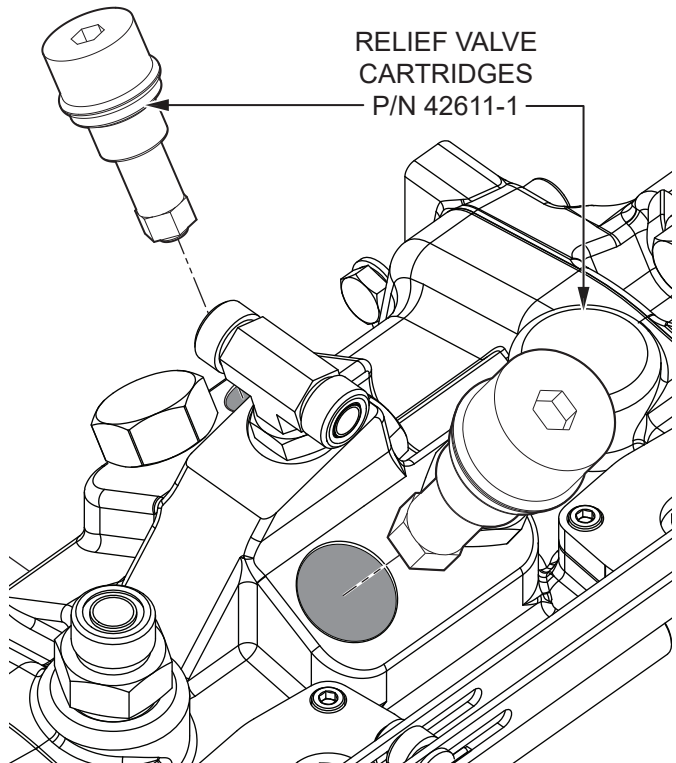

Figure 7. Relief Valve Cartridge Installation
3. Insert the two new relief valve cartridges (P/N 42611-1) into the pump and torque them each to 60 ft-lb (81.35 N·m). See Figure 7.